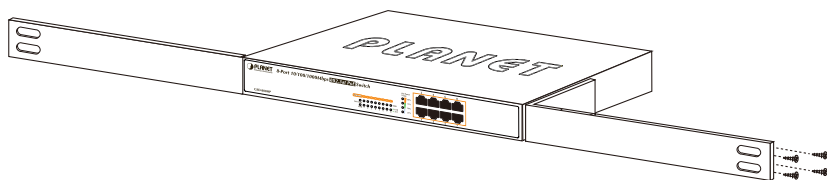

Figure 2-4: Attaching the Brackets to the Switch
Step 2: Attach a rack-mount bracket to each side of the Switch with supplied screws attached to the package. Figure 2-4 shows how to attach brackets to one side of the Switch.